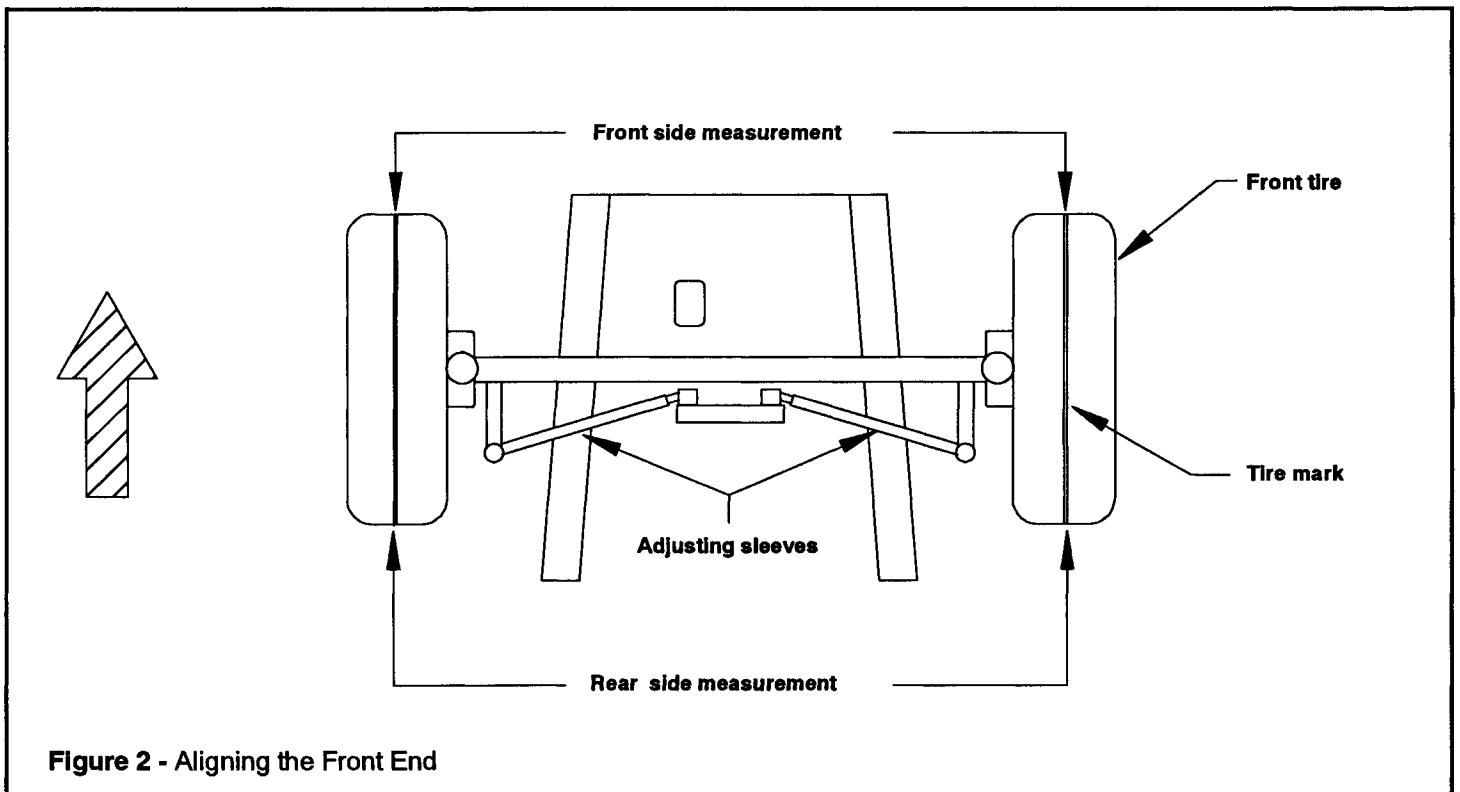

Figure 2 - Aligning the Front End
- 7** Loosen the clamp nuts on the tie-rods until the tie rod sleeves can be turned (See Figure 2).